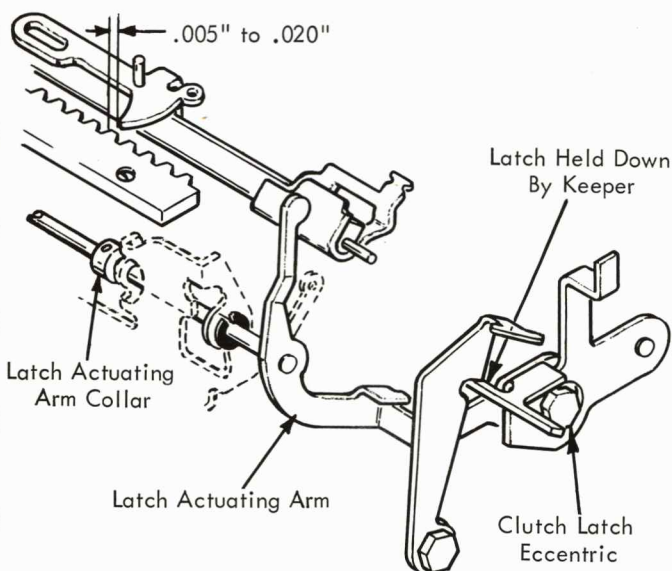

FIGURE 147.1 Pawl Clearance Adjustment
1. **Pawl Clearance** - Adjust the clutch latch eccentric so that the escapement pawl will clear the rack teeth by .005" to .020" when the latch is being held down by the keeper (Fig. 147.1). NOTE: The latch actuating arm collar should be adjusted for .001" to .007" end play of the latch actuating arm (Fig. 147.1) prior to making the pawl clearance adjustment.